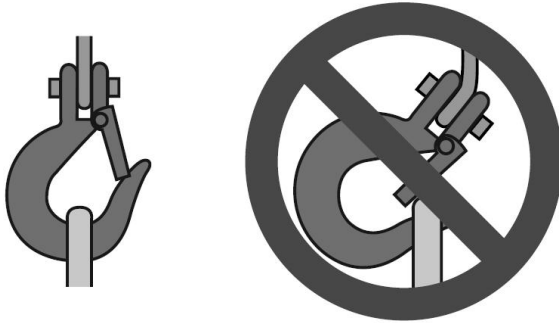

Fig. 8 Correct and incorrect hook attachment
10. Properly seat the sling or other device in the base (bowl or saddle) of the hook (see the left side diagram on Fig.8). Do not allow the hook hitch to support any part of the load.
11. Do not apply the load to the point of the hook (shown in Fig. 8 on the right side diagram).